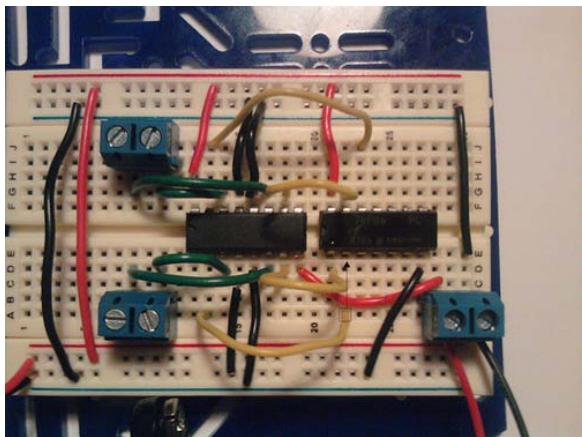

Figure 4-22. Configuration of the hex inverter
10. Connect digital pin 5 to pin 1 on the H-bridge, and digital pin 4 to pin 7 on the H-bridge. After that, connect digital pin 6 to pin 9 on the H-bridge, and digital pin 7 to pin 10 on the H-bridge (see Figure 4-22).